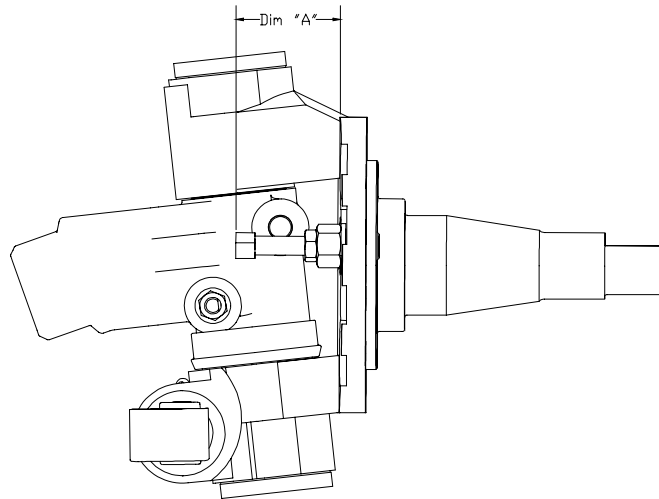

Figure 4
15. Check steering stops. See Figure 4 page 9. Failure to do so could result in damage to the stabilizer shocks.
A turn angle - mechanical stop (bolt) is an adjustable fastener that limits the steer axle's turn radius angle. It is important that the stop is set with the intended wheels so no interference(s) occur. See Dim "A" Figure 4 below.